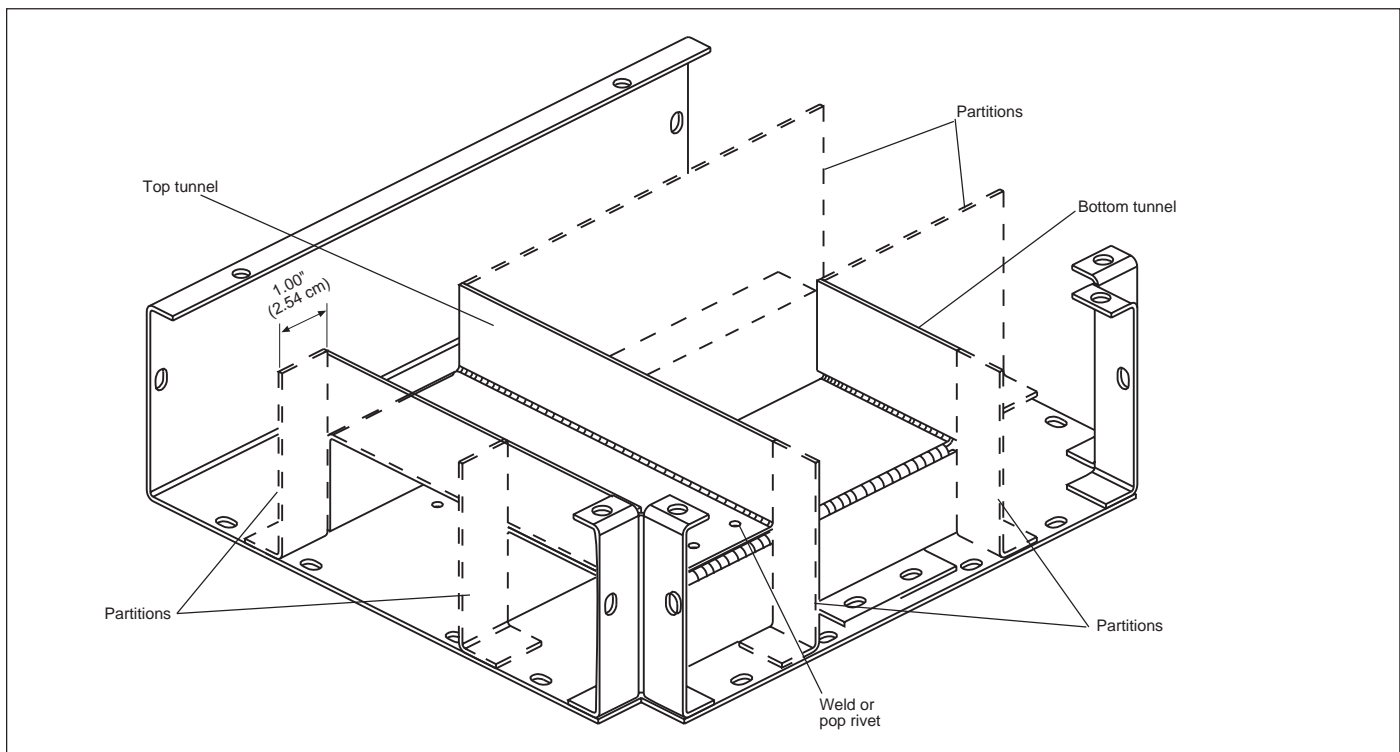

Figure 2: Tee Application—RWT10PTE and RWT18PTE
1. Position the tunnel in the tee as shown in figure 2. Leave a 1.00" (2.54 cm) gap between the edge of the base plate and the edge of the tunnel.
4. Position the top tunnel as shown in figure 2. Using the slot in the end of the top tunnels as a template, drill 11/64" (0.44 cm) diameter holes.
Align all partitions with all the tunnels as shown in figure 2. Gaps between tunnels and partitions must not exceed 1/8" (0.32 cm).